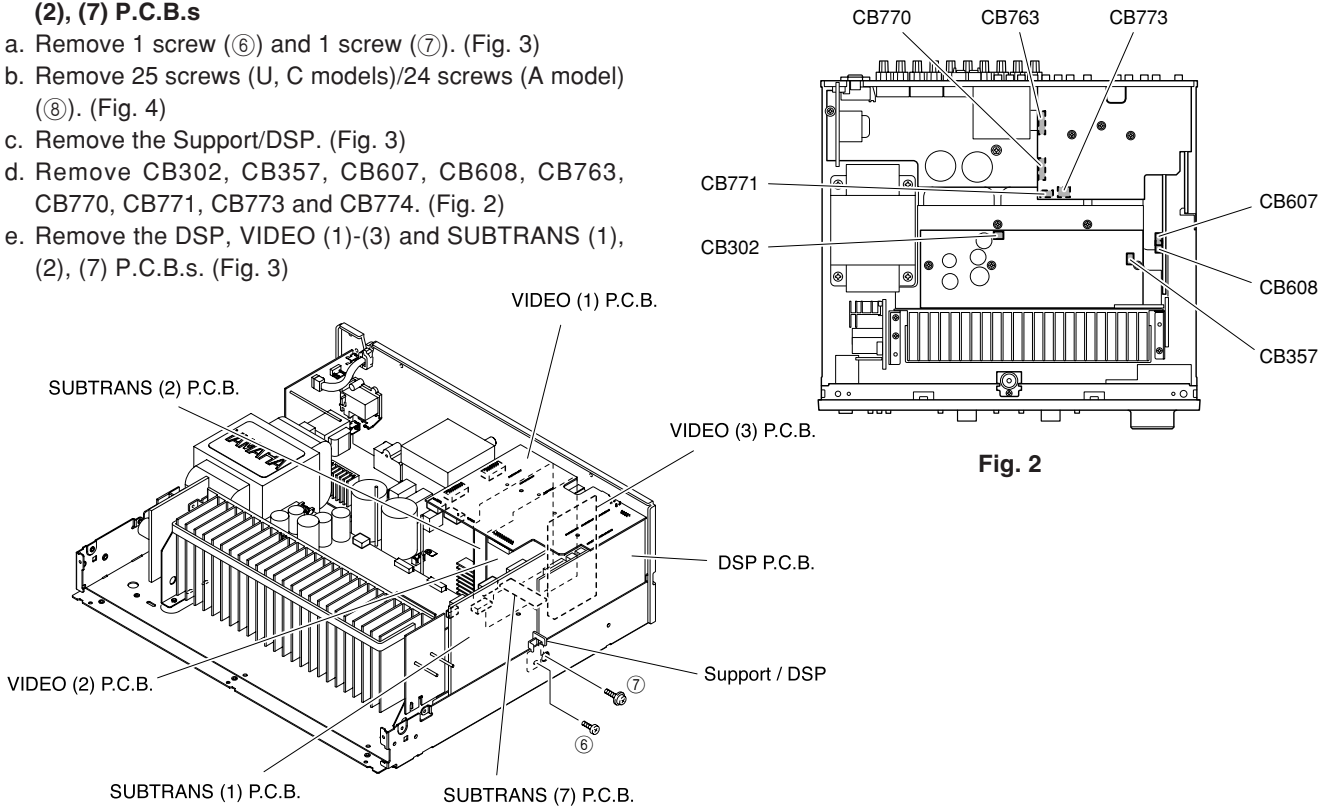

Fig. 3
3. Removal of DSP, VIDEO (1)-(3) and SUBTRANS (1), (2), (7) P.C.B.s
- a. Remove 1 screw (6) and 1 screw (7). (Fig. 3)
- c. Remove the Support/DSP. (Fig. 3)
- e. Remove the DSP, VIDEO (1)-(3) and SUBTRANS (1), (2), (7) P.C.B.s. (Fig. 3)
- Remove 1 screw (6). (Fig. 3)